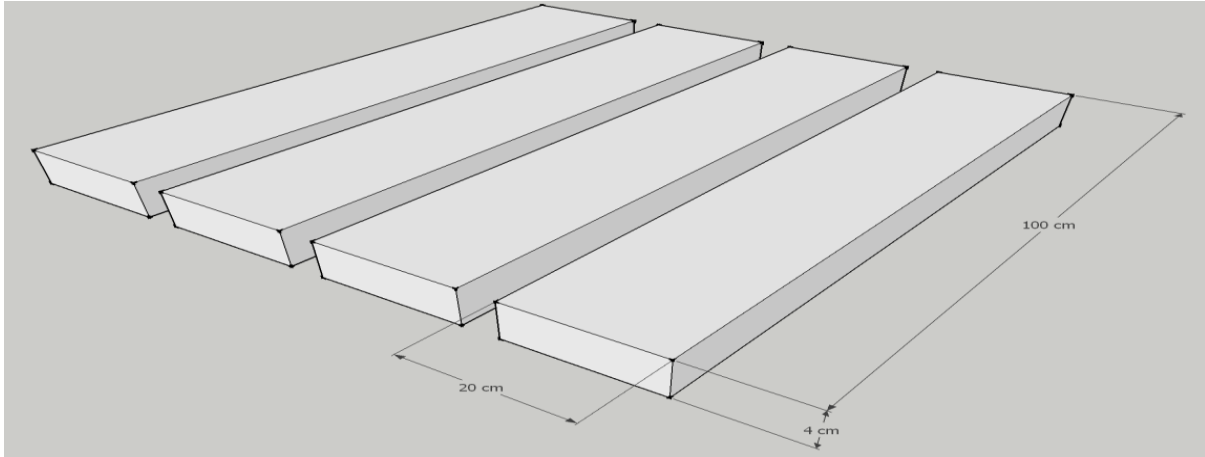

Figure 3: Thermocol
- ✓ 4 thermocol sheets are required each with the following dimensions: 100cm x 20cm x 4cm as shown in Figure 3.